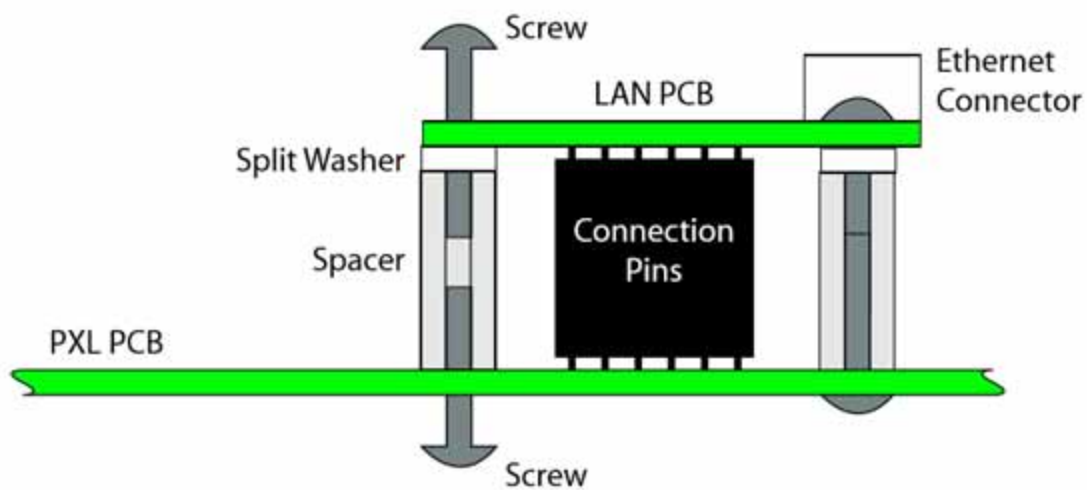

Figure 2: LAN-520 Anchoring to PXL PCB
3. Insert the LAN-520X into J7 on the EntraGuard. Orient the LAN unit as shown in Figure 2.